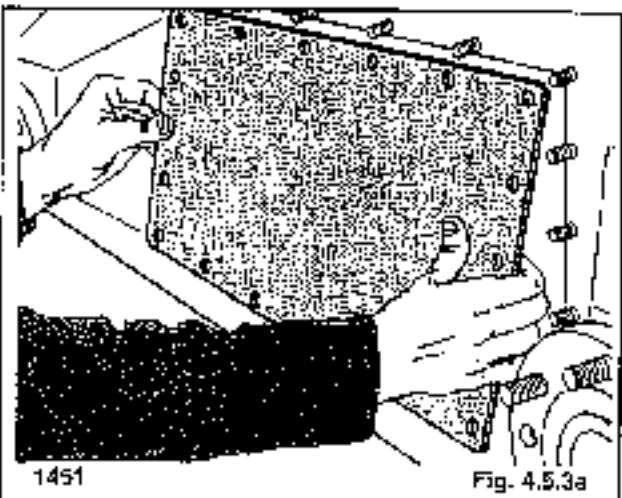

Fig. 4.5.3a
5. Remove the dual drive inspection cover (fig. 4.5.3a) located between the axles on the final drive housing. On reassembly apply silicon to the inspection cover to prevent leakage of the drive lubricating oil.